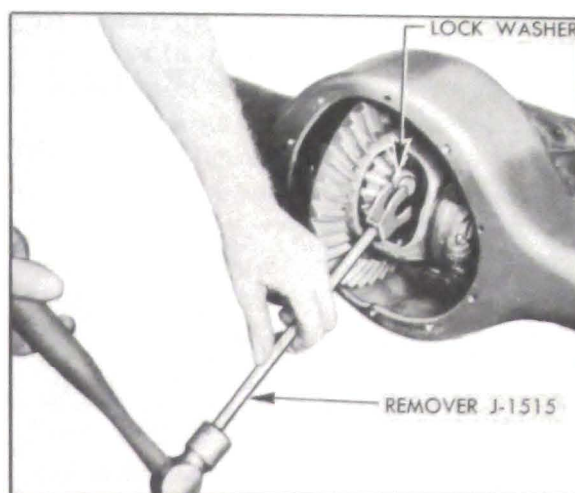

Figure 5-3—Removing Axle Shaft Lock Washer with Remover J 1515
5. Push each axle shaft inward and drive the horseshoe-shaped lock washer from grooved inner end of axle shaft, using Remover J 1515. See figure 5-3.